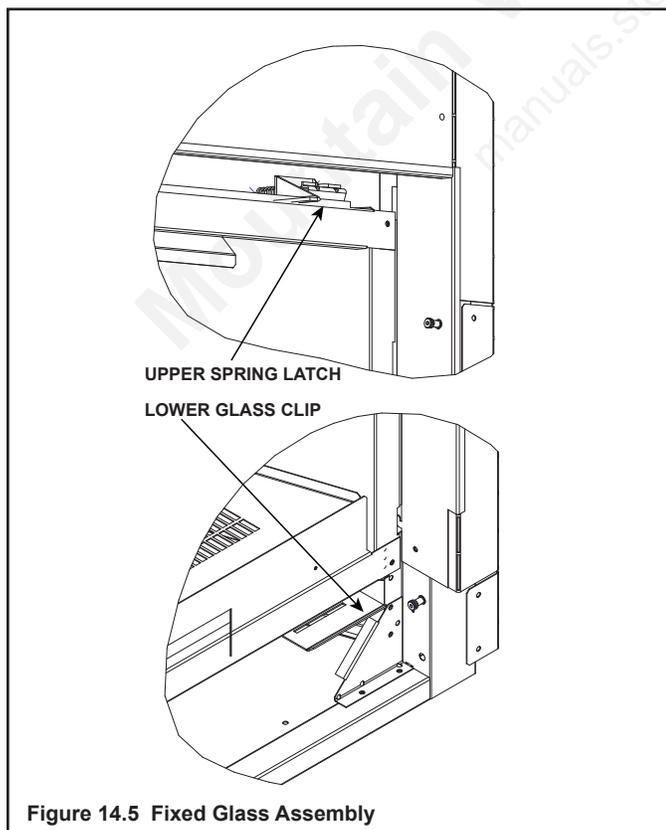

Figure 14.5 Fixed Glass Assembly
4. Put pressure on the glass as you allow the glass assembly to drop into the two lower glass clips. See Figure 14.5.